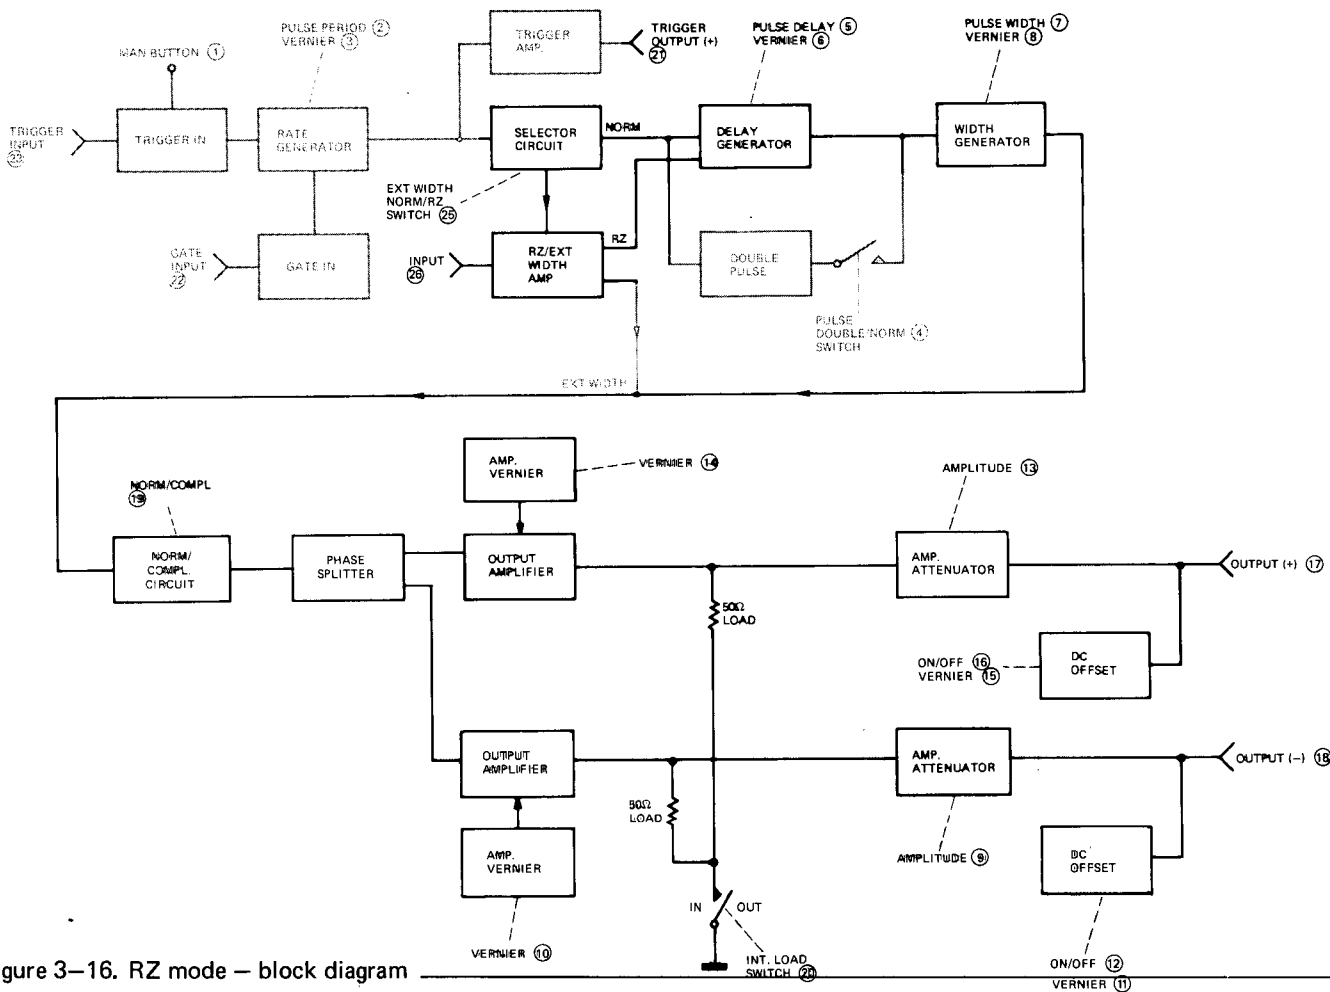

Figure 3-16. RZ mode - block diagram
3-39 In RZ mode external pulses, applied to the INPUT connector (26) on the 8013B rear panel, trigger the delay generator directly (see figure 3-16) and the shape of the output pulses is determined by the out-
3-40 The circuits and controls involved in RZ mode are shown in figure 3-16.